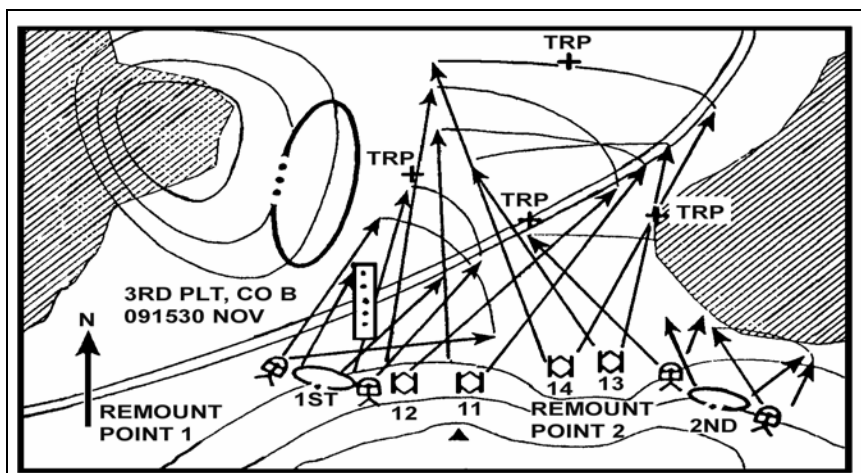
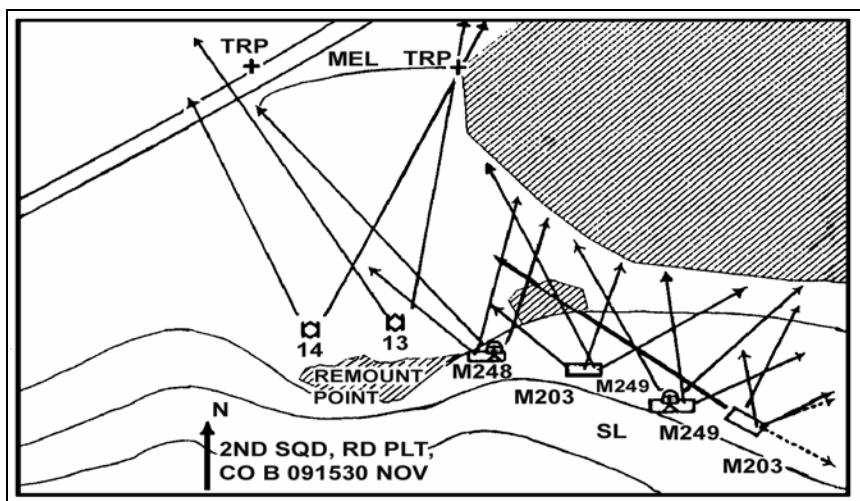

Figure 9-7. Platoon sector sketch.
Figure 9-8. Squad or section sector sketch.
f. **Sector Sketches.** The platoon leader uses sector sketches to make sure he covers his acquisition and engagement responsibilities, to orient subordinate elements, to provide information to higher leaders, and to control fires. After confirming weapons positions, he sketches his own engagement plan (Figures 9-7 and Figure 9-8, page 9-16).
(1) Each leader prepares sector sketches on acetate overlays to a scale established by the commander. The squad, section, and platoon sector sketches will look a lot alike. The main difference between them is, of course, the size of the element. For example, the platoon sketch shows the BFV, squad, and antiarmor missile positions. Squad and section sketches show the BFV and soldier fighting positions.
(2) Each leader submits his completed sector sketch to the next most senior leader for approval. After receiving approval, he distributes copies of his sketch to his subordinates.
(3) The company commander should ensure that platoon leaders and platoon sergeants receive copies of the company's fire plan. Each platoon leader issues copies of his platoon's sketch to section leaders and squad leaders. Every sector sketch must show--